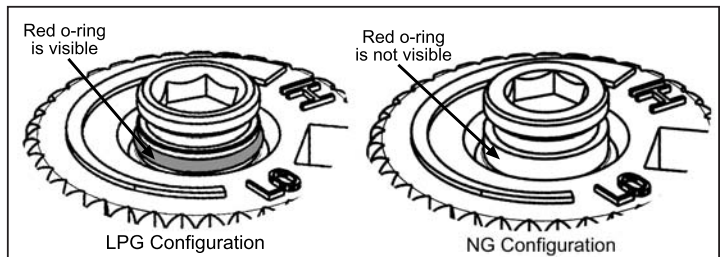

Figure 21: O-ring on valve screw.
- g) Verify that if the conversion is from NG to LPG, the screw must be re-assembled with the red o-ring visible (refer to Figure 21). If the conversion is from LPG to NG, the red o-ring of the screw must be not visible.